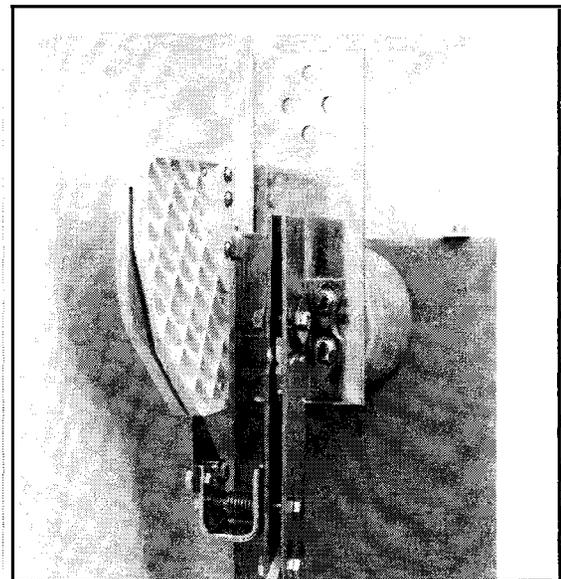

Fig. 12 Main Blade Spacer Adjustment
- d. With the switch closed, the upper spacers of the main blades should rest $3/16'' + 1/16''$ above the bottom of the depression of the stationary break jaw (see Fig. 12).
Close the switch. Check that the upper spacers of the main blades are $3/16" + 1/16"$ above the tops of the break jaws. (See Fig. 12) If they are not, loosen the bolts holding the break jaw. Adjust as necessary. When setting is correct, tighten bolts to proper torque value.